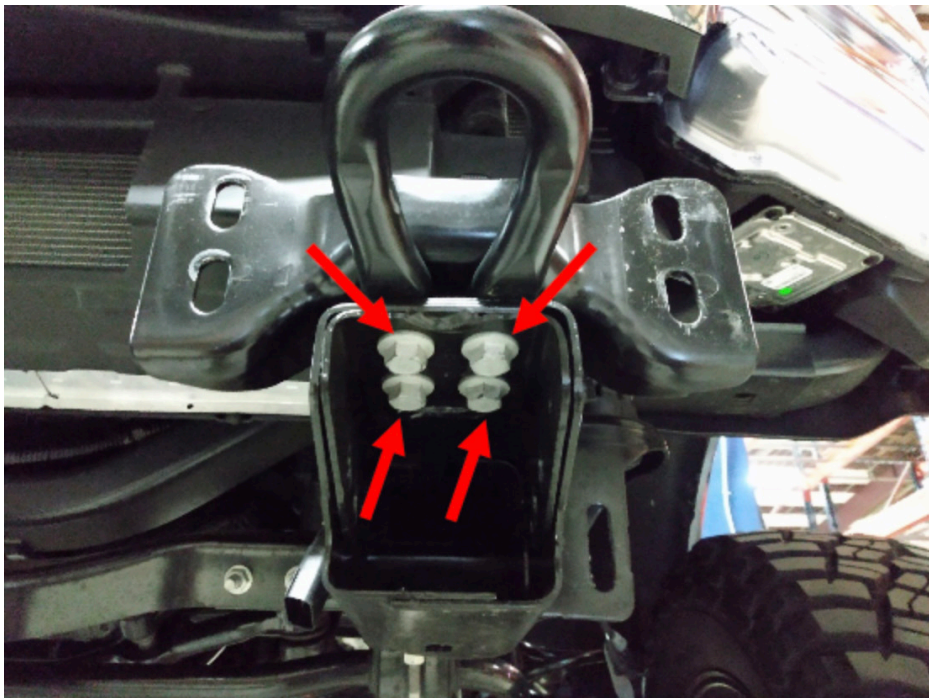

Figure 9
9. Using an 18mm socket wrench, remove the eight (8) bolts attaching the tow hooks to the frame and remove the tow hooks. Figure 9